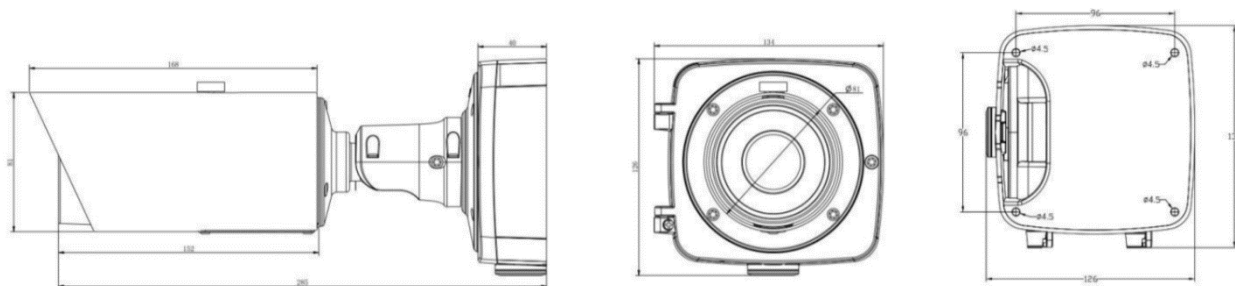

Figure 1 - IP-camera VisorJet Smart Bullet
1.3.2 The overall dimensions of the product are shown in Figures 1 - 11.